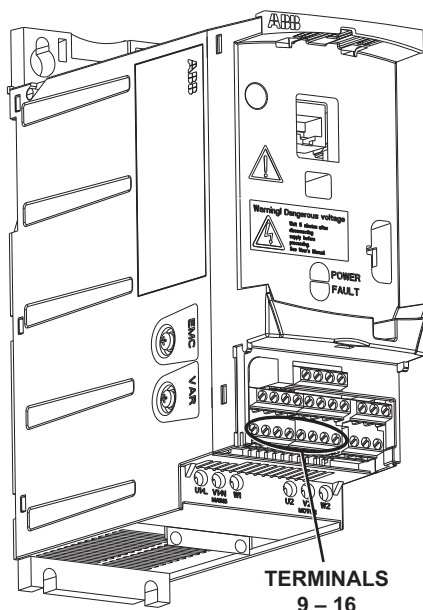

Fig. 55 — ACS320 Terminal Blocks
3. Disconnect the DI1 input at terminal 12. The terminals are numbered on the bottom of the block (see Fig. 55 for the location of terminal block that contains terminal 12).